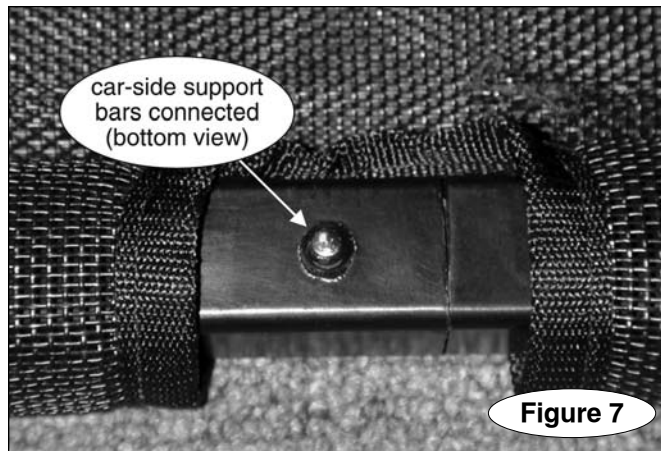

Figure 7
7. Now, connect the car-side support bars to the other side of the Tow Defender – one of the support bars has a pre-drilled hole near one end; the other has a push-button lock. Slide both of the support bars through the center of the Tow Defender and into the pocket at the edge of the screen (Figure 7), so that the hole and the push-button lock are at the center. Then, depress the push-button lock and slide the bars together, until the lock snaps through the hole (Figure 7).